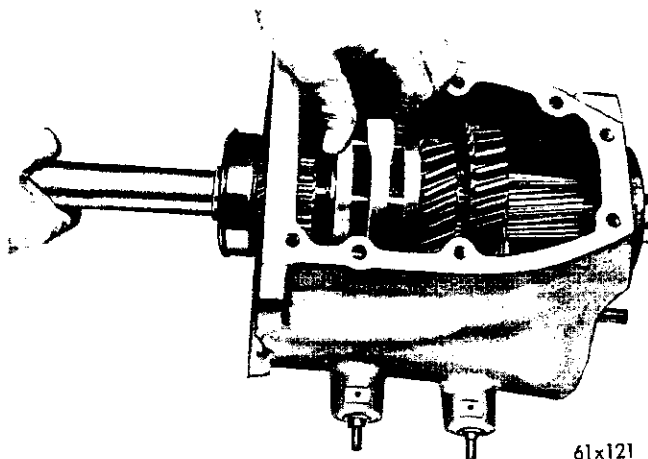

Fig. 3—Removing the Drive Pinion Assembly
(1) Remove the bolts that attach the main drive pinion bearing retainer, then slide the retainer off the pinion. Discard the gasket and drive the seal out of the retainer, using a suitable drift.
(2) When removing the drive pinion and the bearing assembly from the transmission case, slide the synchronizer front inner stop ring from the short splines on the pinion as the assembly is being removed from the case, as shown in Figure 3.